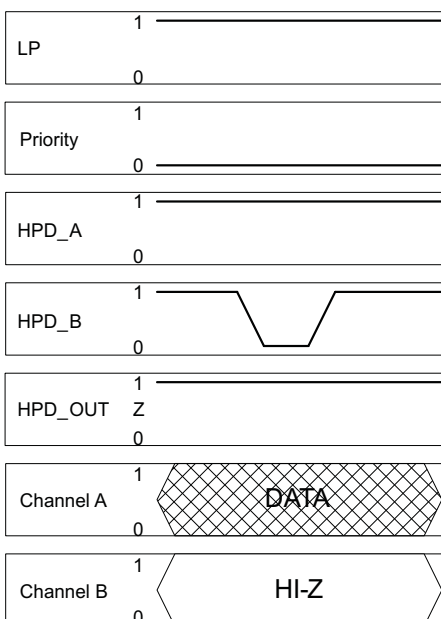

Figure 43.
- Case one: In this case the HPD input that is initially HIGH is from the port that has priority. Since the port with priority is already selected, any activity on the HPD input from the other port does not have any effect on the switch whatsoever (see Figure 43).